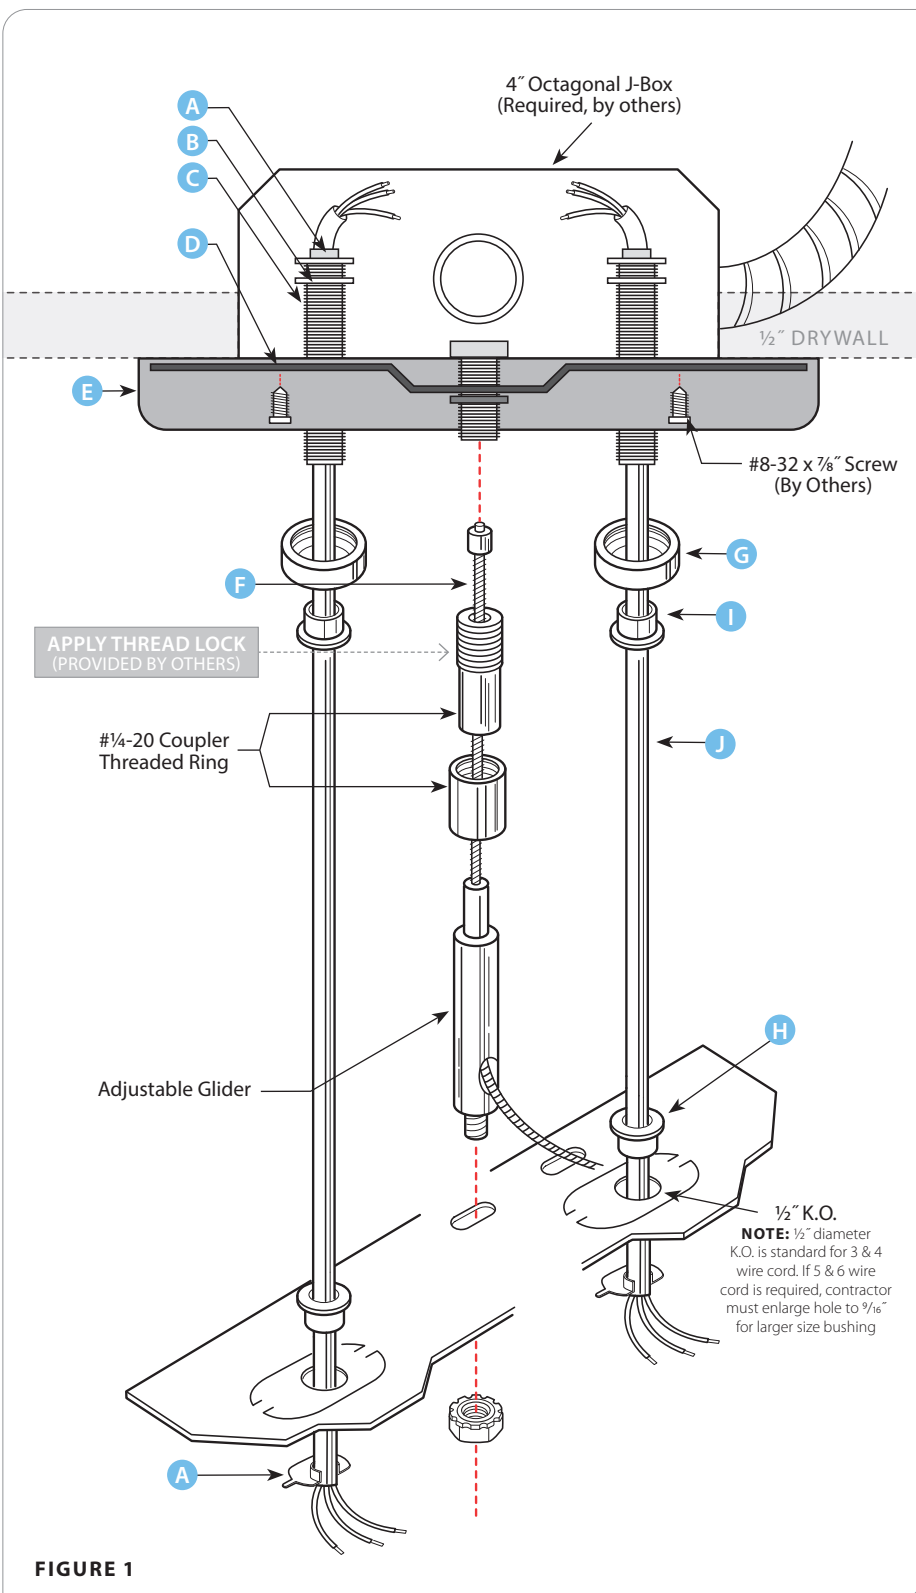

FIGURE 1
3. Fasten the Brass Knurl Nut (B) onto Brass Nipple (C), then insert into the 3-Hole Canopy (E). Snap the Universal Bushing (I) into the Threaded Bushing (G) and secure it at the end of the Brass Nipple (see figure 1) and set it aside.
4. Mount the provided Mounting Strap (D) to J-Box with #8-32 x 7/8" Screws. Make sure to position the Mounting Strap so that the Brass Nipples will later fit into the J-Box.
5. Cut SJT Cord to required length and run one end of the SJT Cord through a Threaded and Universal Bushing (G,I), then through the Brass Nipple (C) and secure the SJT Cord with a Metal Strain Relief (A). Prudential provides 1' addition cord per feed drop. For example, 53' aircraft cable gets 5' cord; 8' aircraft cable gets 9' cord; etc. Once completed, make all necessary connections to the Power in the J-Box.
6. Lift Canopy to Mounting Strap, so 1/4-20 x 3/4" stud of the Mounting Strap passes through the center 3/8" diameter hole of the Canopy. Then secure it with #1/4-20 Coupler Threaded Ring of the Support Cable Kit (F). Apply a small amount of thread lock to coupler threaded area (if needed).
7. Remove 1/2" KO from fixture. Insert the other end of the SJT Cord through the Cord Bushing (H), then press the Cord Bushing and SJT Cord through the 1/2" dia. hole of fixture and secure it with a Metal Strain Relief (A) from the inside of fixture. For a 5 or 6 wire cord, contractor must enlarge holes to 9/16" diameter for larger size bushing.